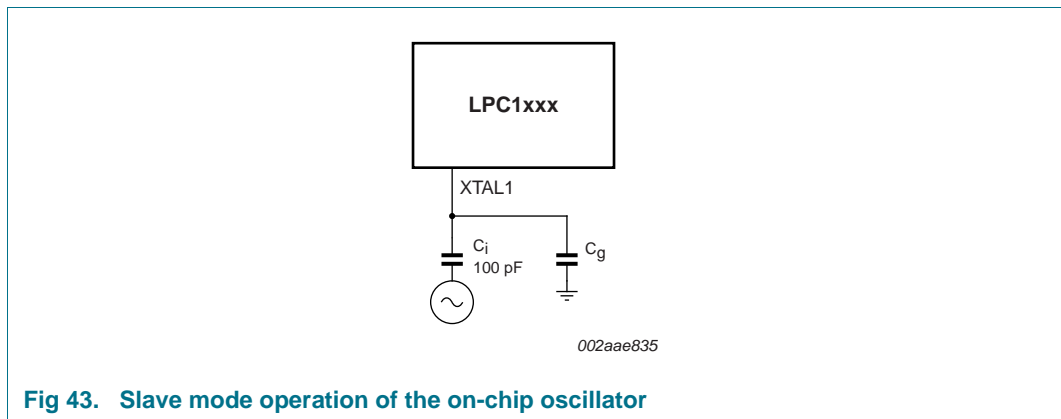

Fig 43. Slave mode operation of the on-chip oscillator
- In slave mode the input clock signal should be coupled by means of a capacitor of 100 pF (C_C in Figure 43), with an amplitude of at least 200 mV (RMS). The XTAL2 pin in this configuration can be left unconnected.